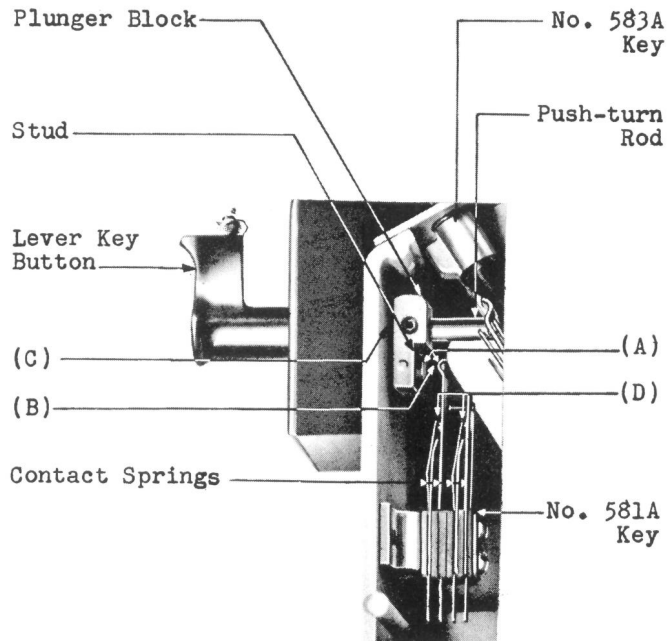

Fig. 8 - No. 581A Key - Plunger Block Position
(a) Fig. 8 (A): With the key in the normal position, the center of the stud on the plunger block shall be approximately in line with the center of the crimp at the end of the key spring. Gauge by eye.
(b) Fig. 8 (B): With the longitudinal play in the push-turn rod taken up towards the front of the cord unit there shall be a clearance between the surface of the stud on the plunger block and the adjacent surface of the crimp on the key spring of approximately 3/32". Gauge by eye.
(c) Fig. 8 (C): With the longitudinal play in the push-turn rod taken up towards the front of the cord unit, there shall be a clearance between the plunger block and the push-turn rod bushing in the frame of Min. .010" Gauge by eye.
#### 2.19 Contact Separation - Fig. 8 (D):